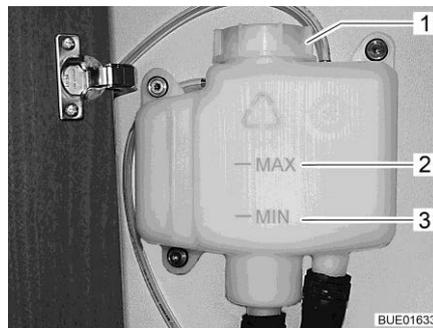

Fig. 305 Compensator reservoir without panel
- Check if the fluid level is between the marks "MIN" (Fig. 305,3) and "MAX" (Fig. 305,2) on the compensator reservoir (Fig. 305).
- Open the rotary lid (Fig. 305,1) on the compensator reservoir.